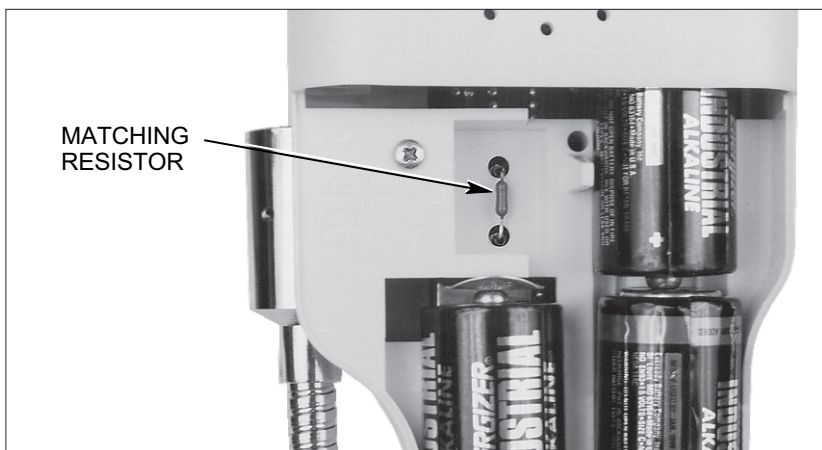

Figure 5. Location of Matching Resistor
4. Remove old matching resistor (Fig 5) and discard.